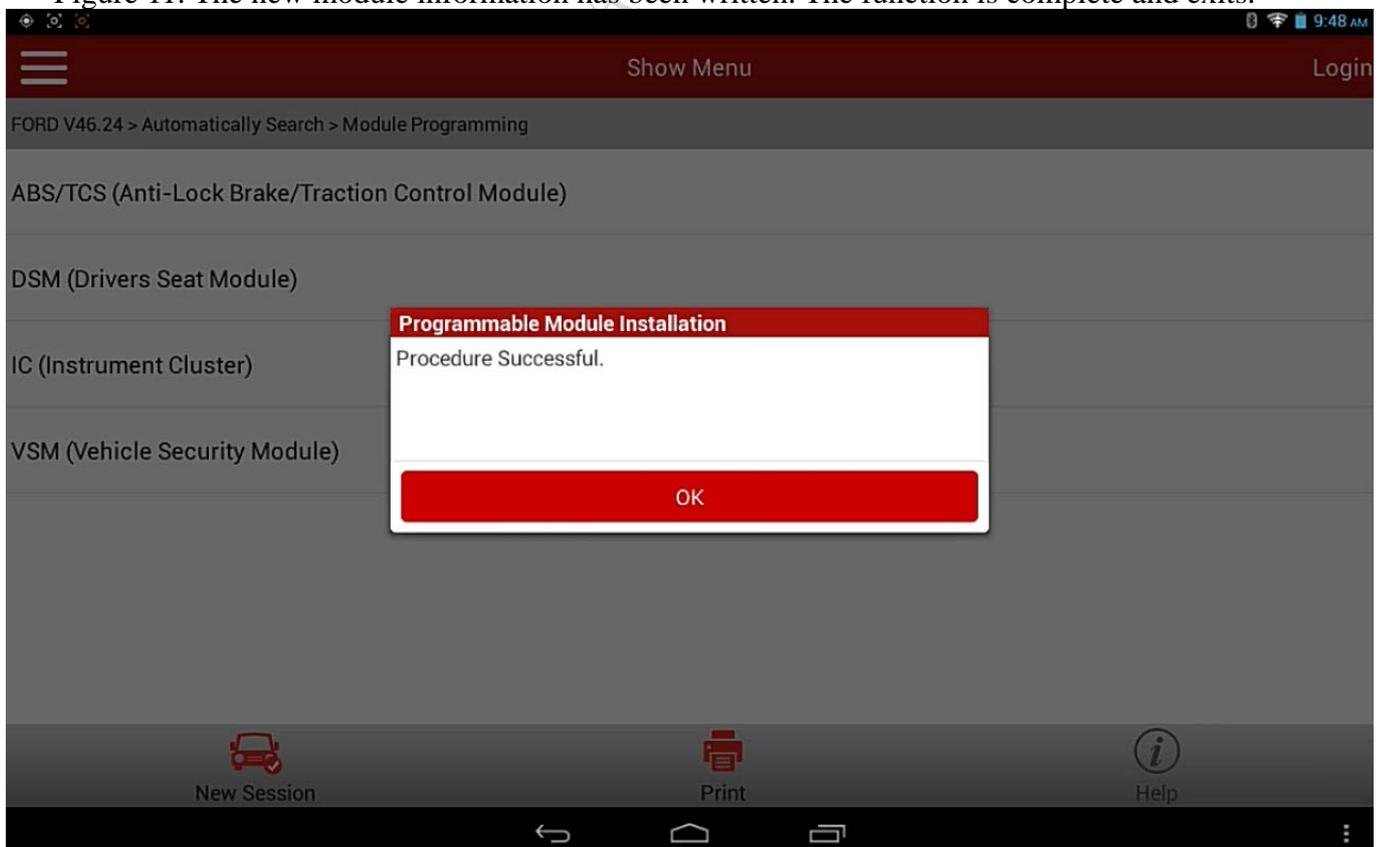

Figure 11
15). After the module is successfully installed, a program running success message is displayed. See Figure 11. The new module information has been written. The function is complete and exits.